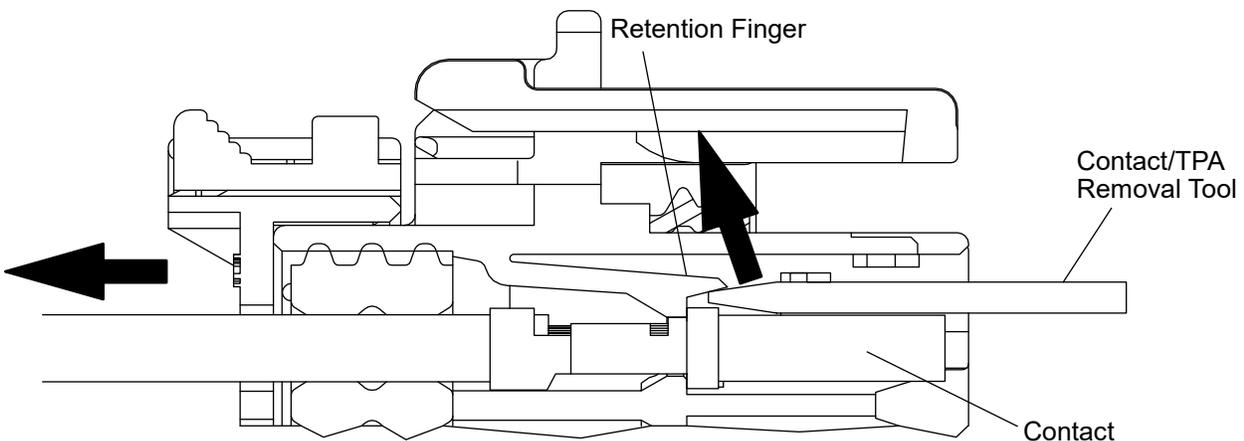

Figure 14
4. Insert the tip of the contact extraction tool into the contact cavity and deflect the contact retention finger. Gently pull the wire until the contact is free from the housing. Repeat this procedure for the remaining number of contacts to be removed as shown in Figure 14.
1. Align the keying features of the TPA with the appropriate features in the plug housing and place the TPA locking fingers inside the plug housing. See Figure 14.
1. Align the keying features of the TPA with the appropriate features in the cap housings and place the TPA locking fingers inside the cap housing. See Figure 14.